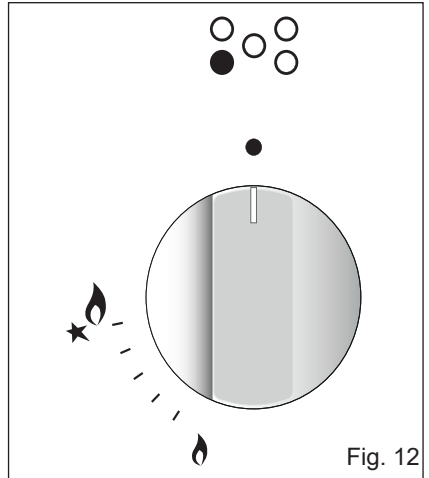

Fig. 12
1. Press in the corresponding knob and turn counter-clockwise to the full flame position marked by the  symbol (fig. 12) and hold the knob in until the flame has been lit. In the case of a mains failure light the burner with a match or lighted taper.